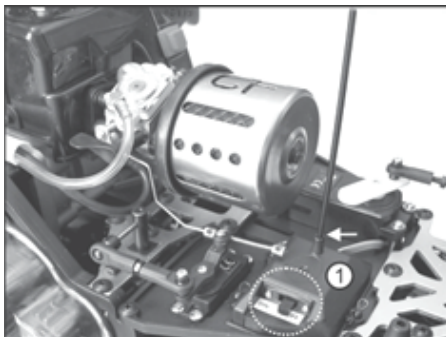

Figure 2
First put the on/off switch for the receiver (see circle in figure 2) in the "OFF" position (off).
Open the receiver box (figure 2, item 1) by pulling off the three clips.
After closing the receiver box, push the tube into the holder at the top of the receiver box (see arrow in figure 2).
Switch on the receiver system (set switch to "ON", see circle in figure 2).